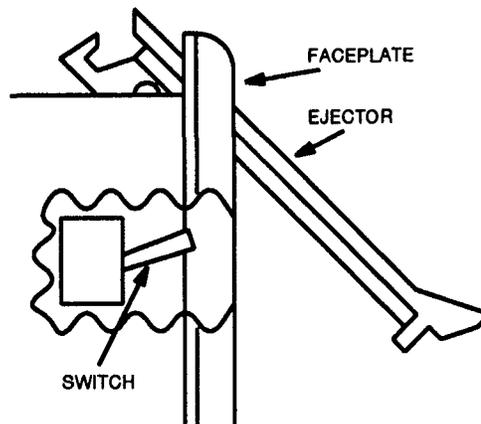

Figure 1. 20-Type OLIU LED Option Switch
10. Refer to **Figure 1** and install the **SRV ED-2C833-20, G(17-20)** cable assembly on the backplane as follows:
11. Refer to **Figure 1** and install the **PROTN ED-2C833-20, G(17-20)** cable assembly on the backplane as follows:
9. **Figure 1** is a cutaway illustration showing the LED option switch in the **20-Type OLIU**. Access to the switch is gained by raising the ejector lever. The switch is illustrated in the **UP** position.